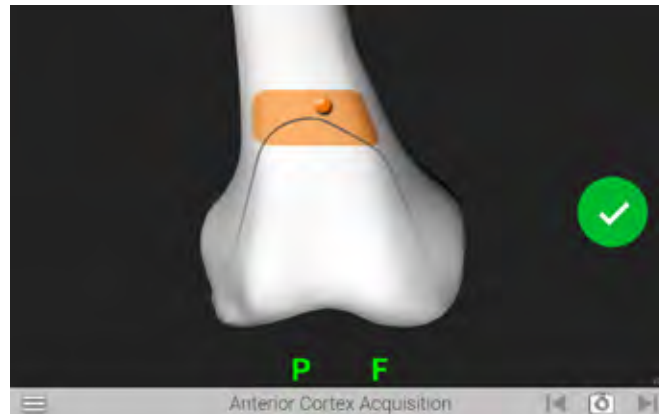

Figure 21
Based on the previous registrations, the system determines the approximate femoral component size and requires registration of points within the patch displayed. The relative location of the tip of the Probe Tracker (P) will be shown as an orange dot on the display. Position the tip of the Probe Tracker (P) so the dot is within the patch displayed and press the Forward button (*Figure 21*). Ensure the tip of the tracker maintains contact with the anterior cortex and trace within the patch in both the medial and lateral sides.